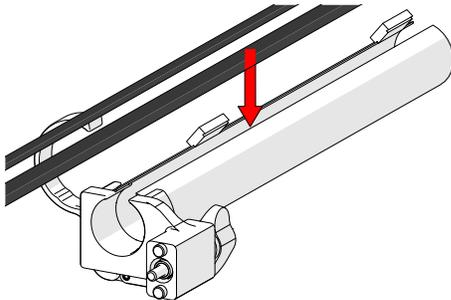

Fig. 200 - Insert cables and hoses
1. Open the cable management. Begin at the clamp end and start placing the cabling in the tube (Fig. 200).